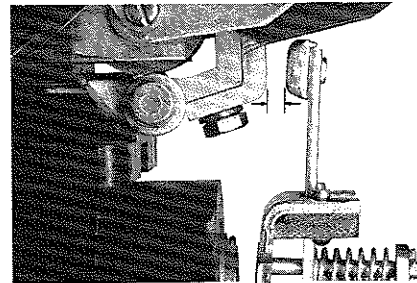

Figure 4
2. Hold the contact arm of the left contactor fully closed and push closed the contact arm of right contactor until stopped by the mechanical interlock. With new contact tips, check that there is a gap of at least 3/16" but not more than 1/4" between the contact tips (Fig. 4).
1. Contact arm gap is factory adjusted. Do not change the setting of the adjusting screw (27).
- Should the setting be inadvertently changed, readjust the contact arm gap by turning the adjusting screw (27) located on the bottom of the contact arm (Fig. 1) until a contact tip gap of 5/16" is achieved (Fig. 4).
- Retighten the locking nut (28) which holds the adjusting screw.